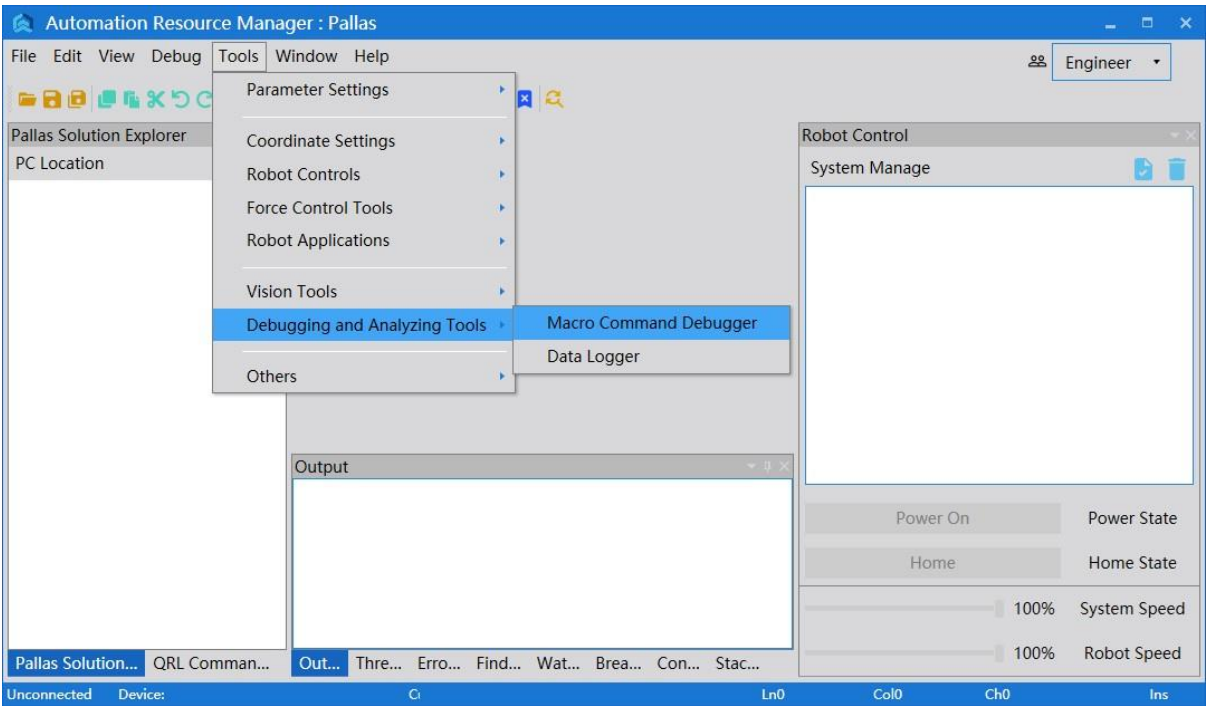

Figure 6-6 ARM interface
**Step 2** On the interface of ARM in Pallas mode, click <Tools> on the menu bar and select < Macro Command Debugger >in< Debugging and Analyzing Tools >, as shown in Figure 6-6.